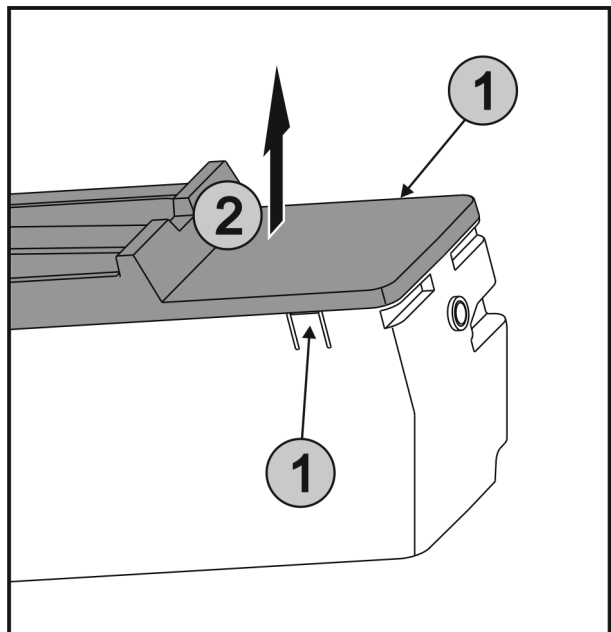

Fig. 57
- ▶ Press the lugs Fig. 57 (1) on both sides of the EasyTwist-Ice simultaneously and take off the cover Fig. 57 (2) upwards.